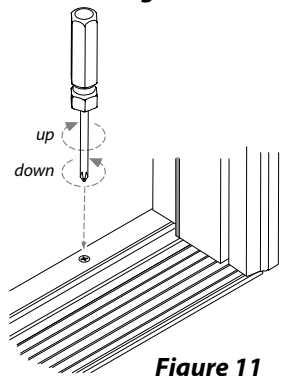

Figure 11
- Make sure door sweep is contacting the sill evenly. The sill cap can be adjusted if needed. A clockwise turn raises the sill cap (figure 11).